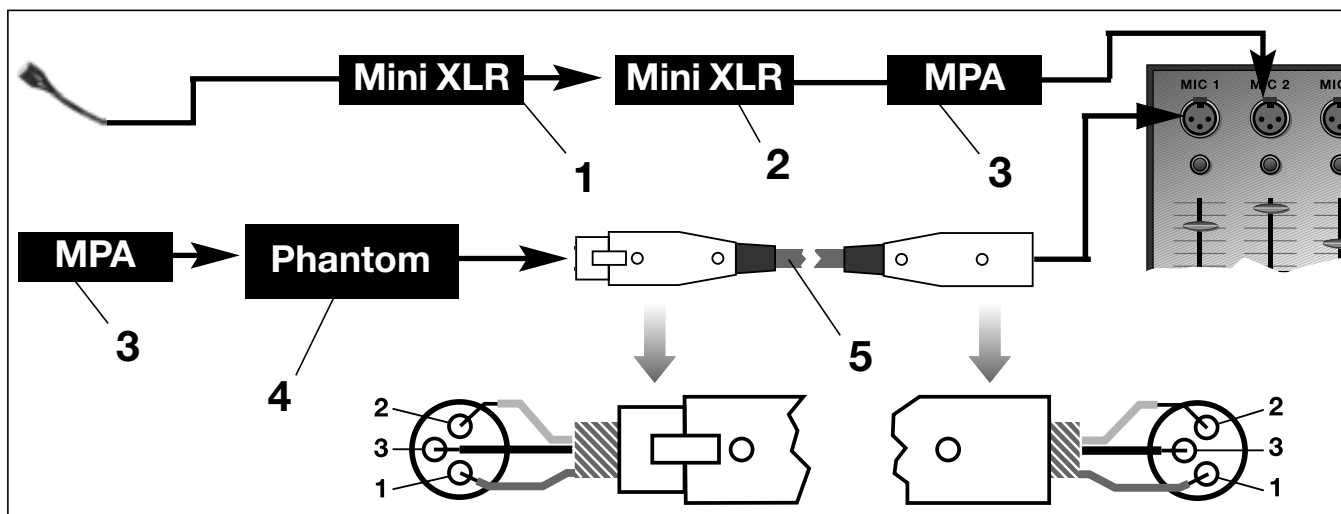

Fig. 4: Connection diagram with MPA III L.
Refer to fig. 4.
- Refer to fig. 4.